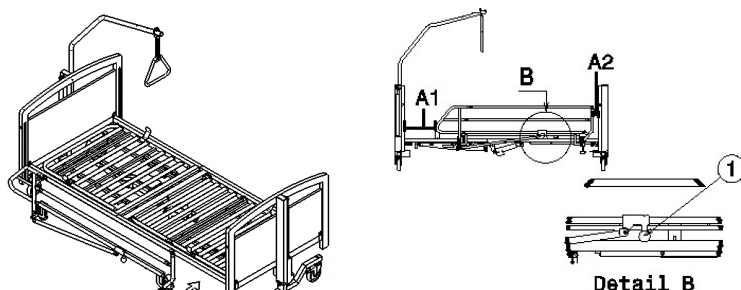

Figure 5: Metal side rail assembly
5.3.2. Metal side rails (see figure 5)